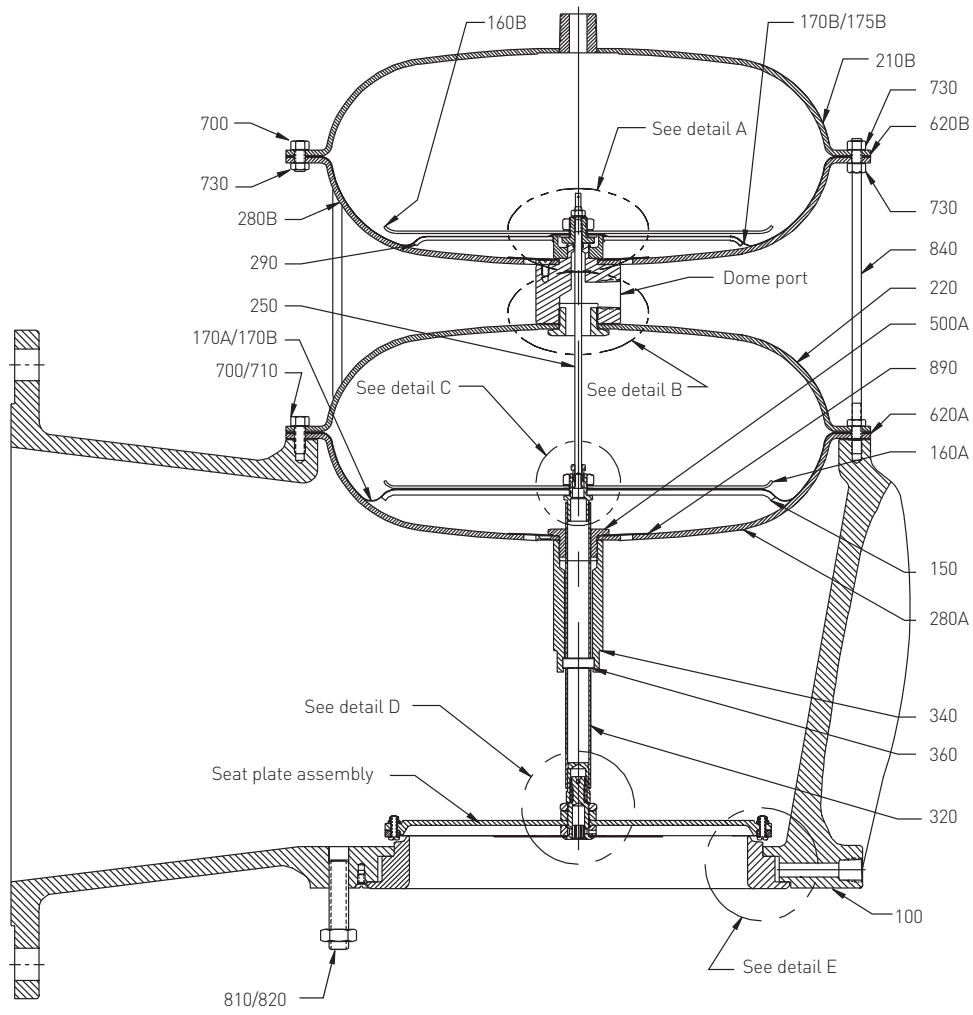

FIGURE 2
2.3 Main valve dual chamber diaphragm disassembly (refer to figure 2)